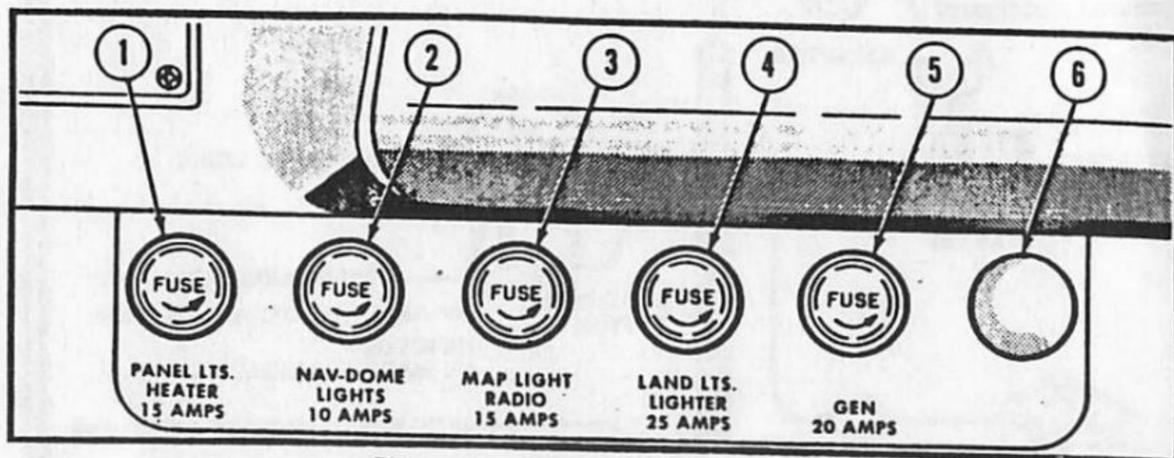

Figure 3. Electrical Fuse Panel
24. Electrical Fuse Panel (See figure 3)